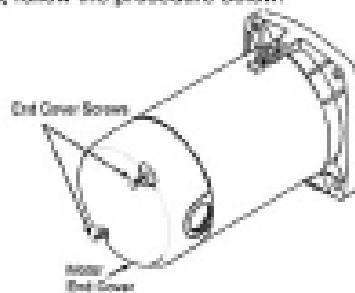

Figure 5 – Removing Motor End Cover
1. Connect ground wire first. Connect the ground first, then to green grounding terminal provided under motor canopy (see Figures 5 and 7) identified as GRD. Make ground connection to this terminal. **Do not** connect motor to electrical power supply until unit is permanently grounded; otherwise serious or fatal electrical shock hazard may be caused.